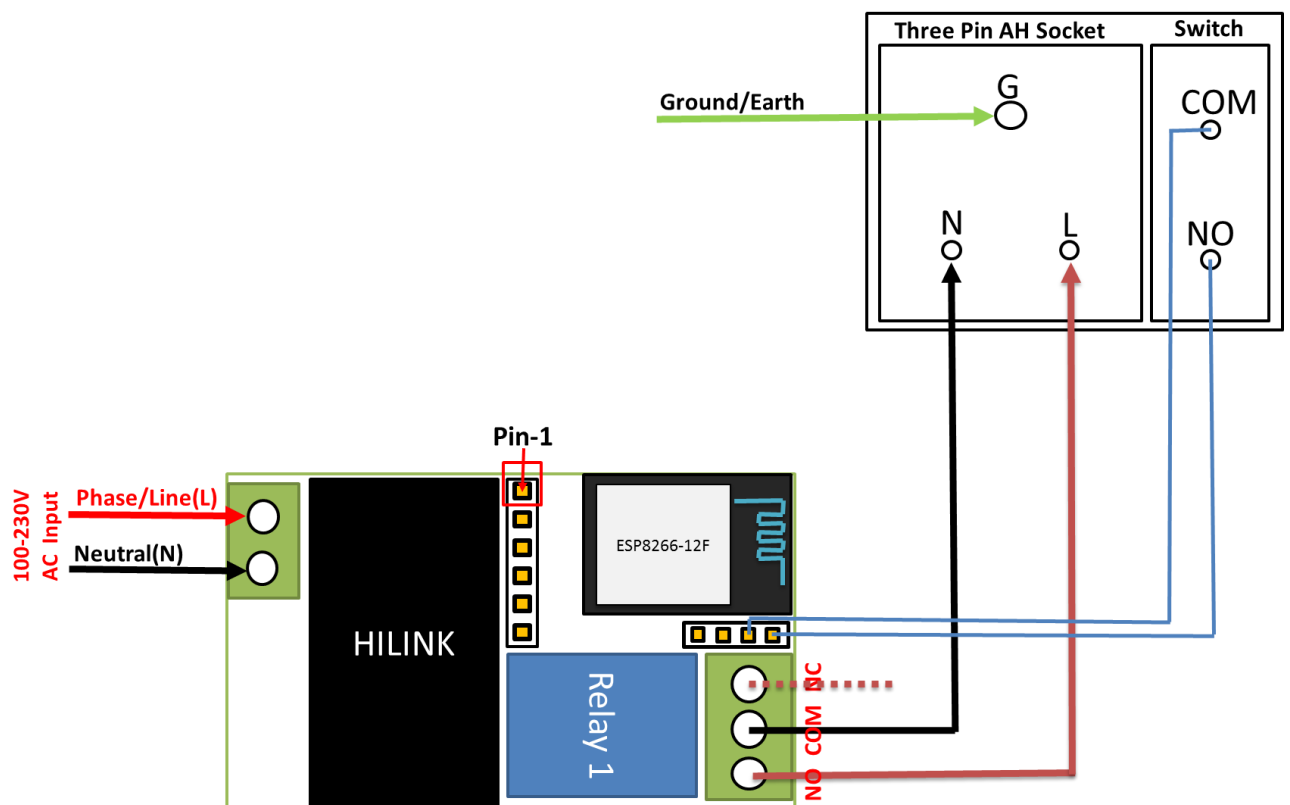

Figure 4: Example wiring diagram
Figure 4 represents example connection of load and relay output (J2) connector. Neutral is given to Common terminal and load shall be connected to the NO or NC terminal of the relay available in same terminal block.
1. Make an input connection AC phase and Neutral connection as shown in Figure 4.